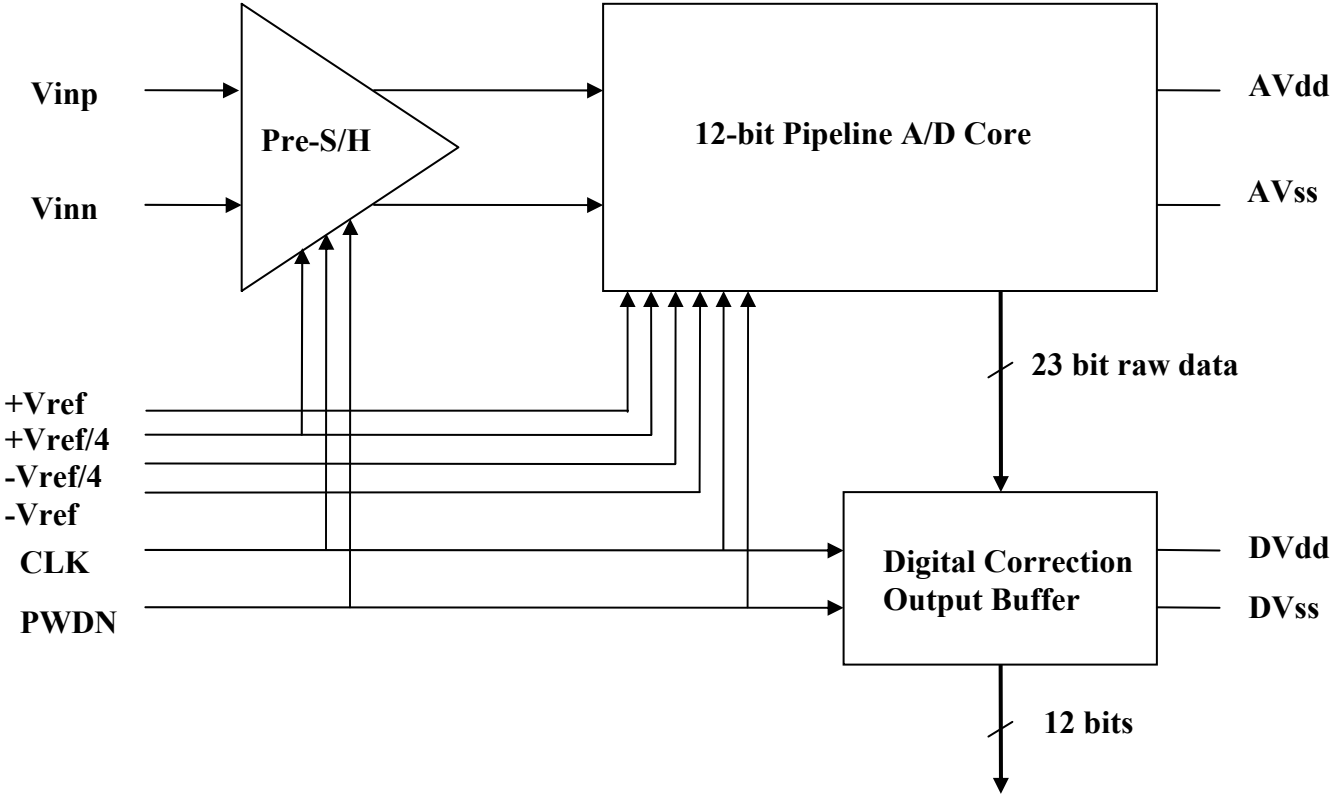

Figure 9: 12 Bit A/D Converter ADC
Figure 9 shows a system block diagram of the 12-bit ADC converter. It consists of (1) a pre sample / hold, (2) a 12-bit pipeline ADC core and (3) a digital correction output buffer. The 12-bit pipeline conversion core consists of 11 conversion 1.5-bit stages and 1 conversion 1-bit stage. There is a total of 23 bit of the digital output from 12-bit conversion core. The pipeline ADC achieves high speed, high performance and low noise for this application.